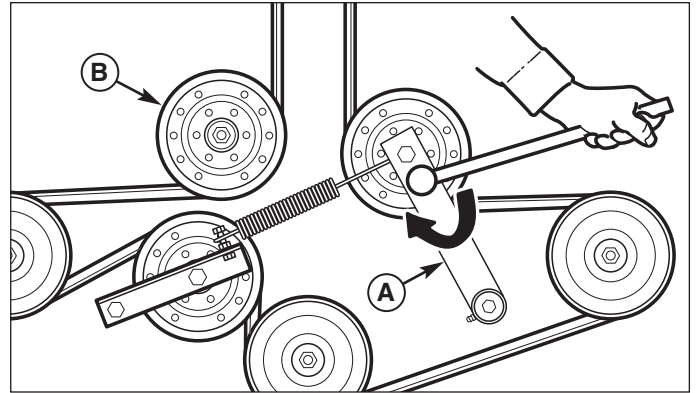

Figure 38. Mower PTO Belt
3. Using a 1/2" breaker bar, place the square end in the square hole located in the end of the idler arm (A, Figures 38). Carefully rotate the breaker bar clockwise, which will relieve the tension on the belt exerted from the idler arm.
6. Install the drive belt on the PTO pulley, the spindle pulleys and all idler pulleys except the stationary pulley (B, Figure 38). Carefully rotate the breaker bar clockwise and install the belt on the stationary idler pulley (B). Carefully release the tension on the breaker bar.